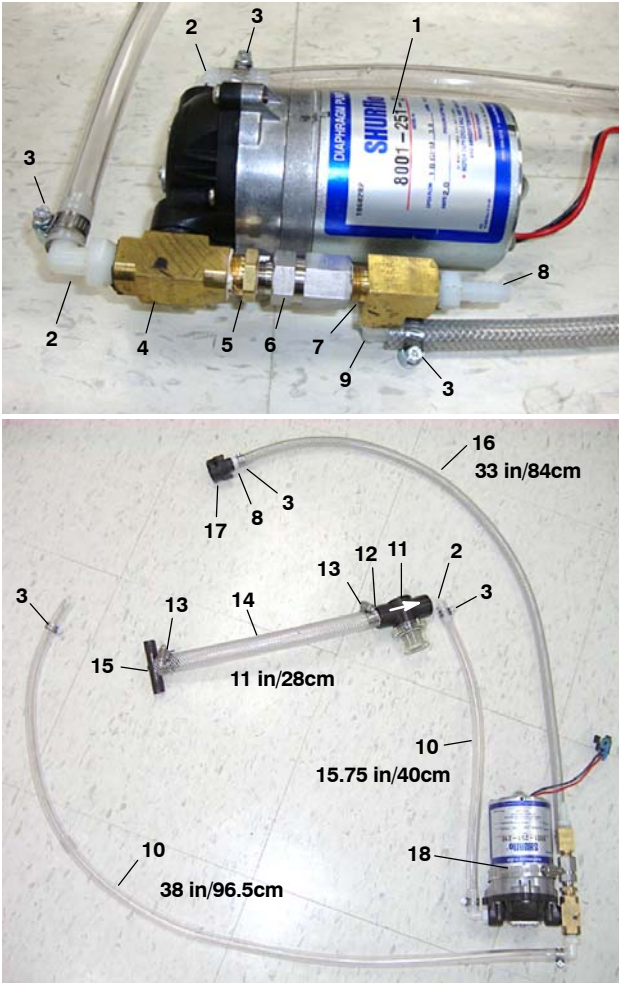

Fig. 21
- Assemble the pump assembly as shown (Figure 21). Use a thread sealer on all fittings. Cut hose lengths as specified.
Pump Assembly Parts List (Figure 21)